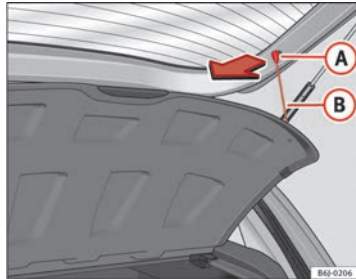

Fig. 96 Rear shelf
- Unhook the loops ⇒ Fig. 96 B from housings A.